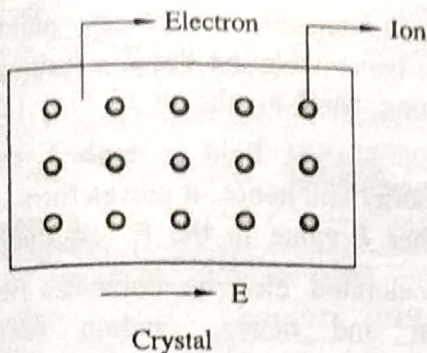

FIG. 1.22 : ELECTRON UNDER THE INFLUENCE OF AN ELECTRIC FIELD
- Let the an external field E is applied to the electron when it is in a crystal shown in Fig. 1.22.